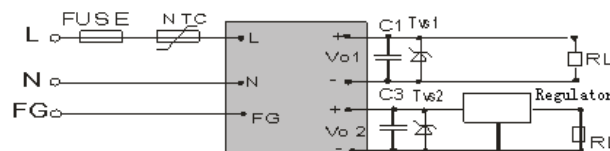

Figure 3. Typical application circuit
- If EMC performance is required, recommended to add "EMC filter" at the input end(see figure 3,4)
For dual or triple output converters, the circuit of input side remains the same and the outputs should be considered independently in component selection (see Figure 3).